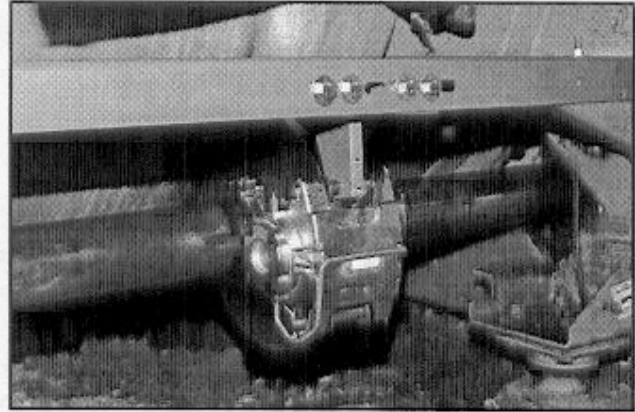

Figure 3
- b. Remove the caliper cross brace. Drill a total of four holes in each push down bracket using the drill bits supplied in the kit (see figure 3).